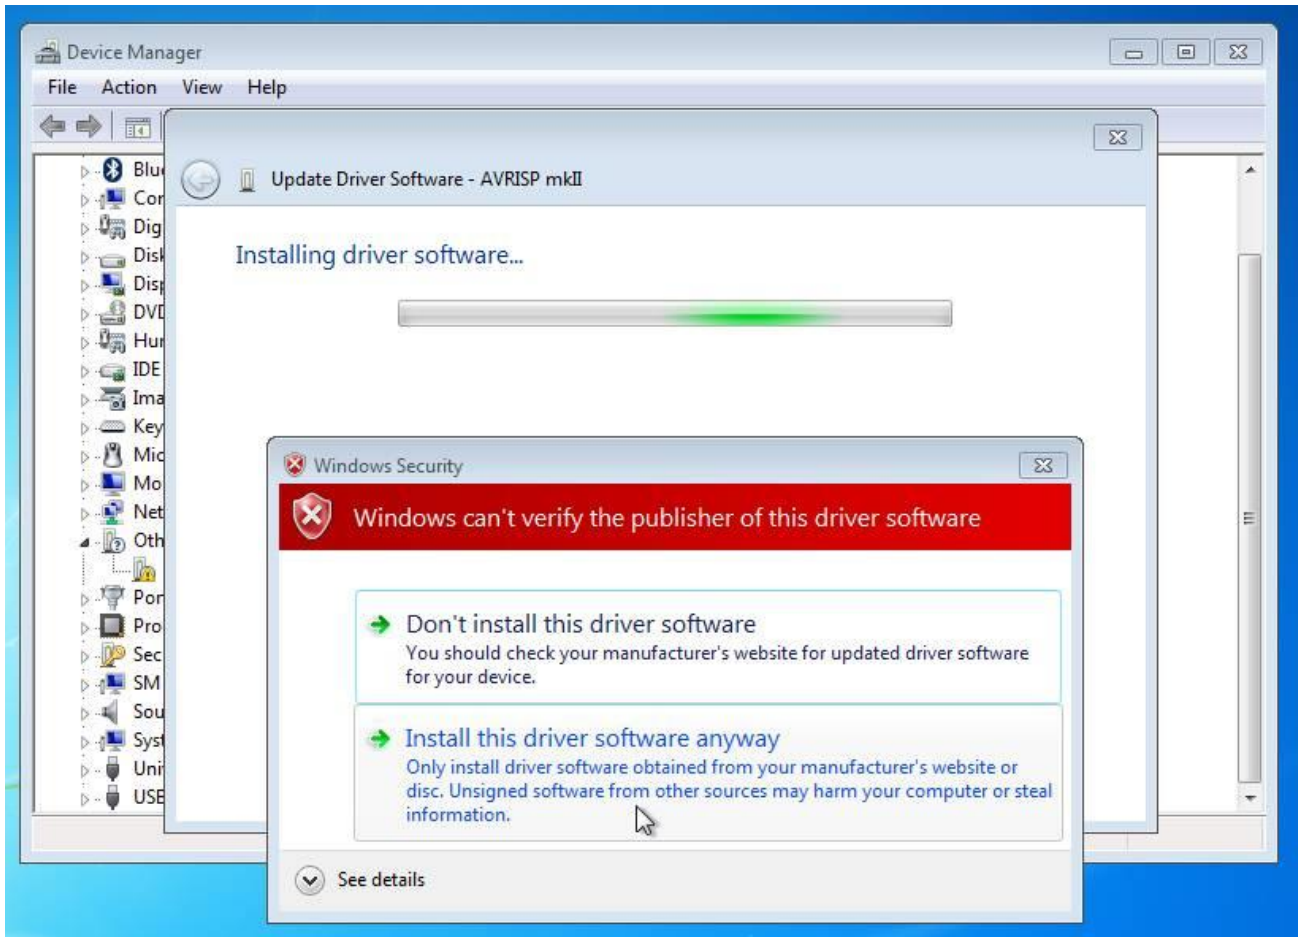

Figure 6.3. Install This Driver Software Anyway
7. During the installation procedure, Windows inform you that it cannot verify the publisher of this driver software. Ignore the warning message, and choose *Install this driver software anyway* to complete the installation, as shown in Figure 6.3.
12. During the installation procedure, Windows informs you that it cannot verify the publisher of this driver software. Ignore the warning message, and choose *Install this driver software anyway* to complete the installation, as shown in Figure 6.3.